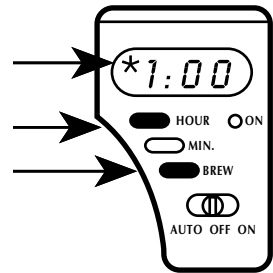

FIGURE 4
2. To program the Coffeemaker for Automatic Start-Up, push and HOLD the **BREW** Button. While holding the **BREW** Button, push the **HOUR** Button to the desired start-up time hour. Continue to hold the **BREW** Button, and push the **MIN.** Button until the correct minutes appears. Be sure to note a.m. and p.m. times. (See Figure 4.)